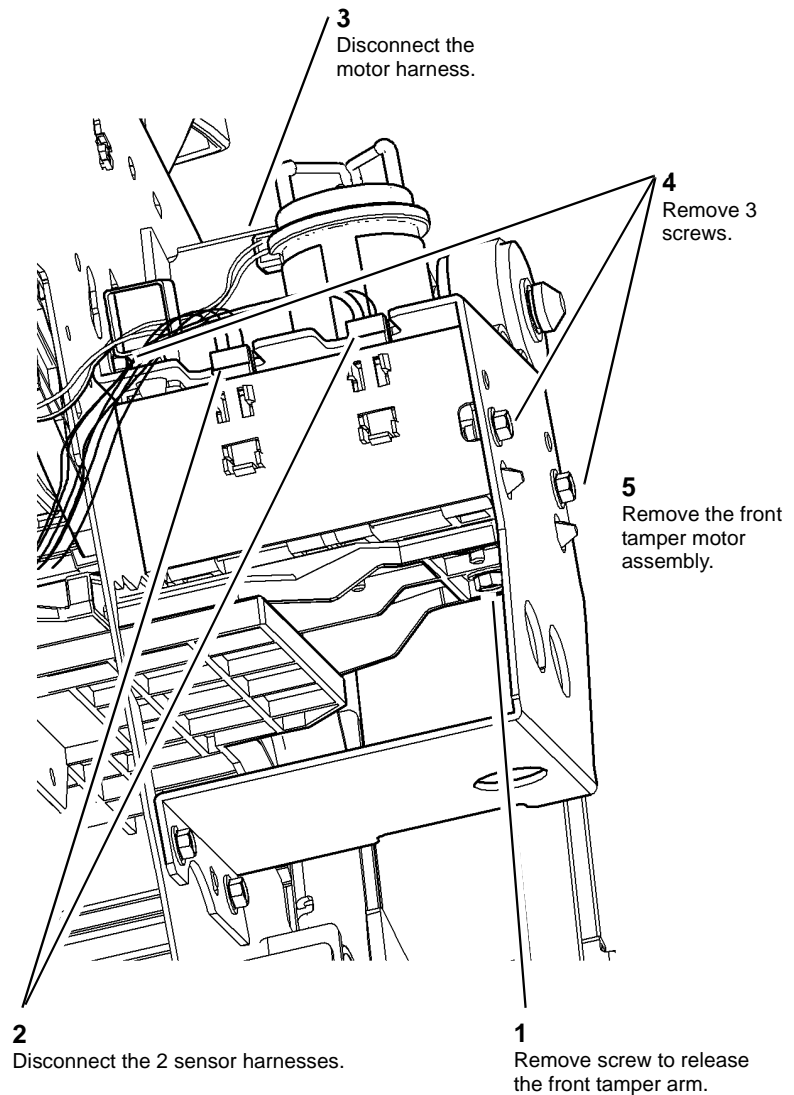

Figure 1 Front tamper motor assembly
2. Remove the front tamper motor assembly, Figure 1.